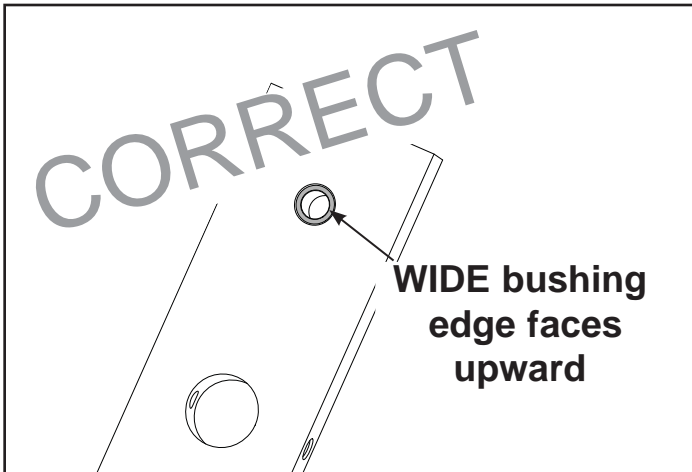

Figure 3A
- M. Carefully align weight plate over guide rods and slowly lower weight plate. **NOTE:** When installing weight plates, position plates so wide edges of bushing face upward and narrow edges of bushing face downward. See Figures 3A and 3B.